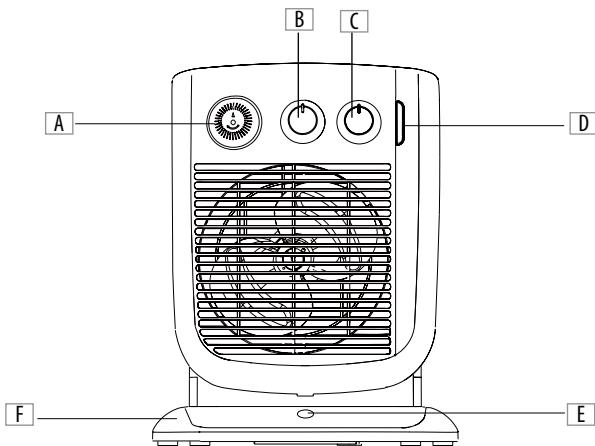

Fig. 1
- If the appliance is installed in a room with bath or shower, respect the "safety distances" shown in fig. 1 and always install away from taps, basins, showers, etc.